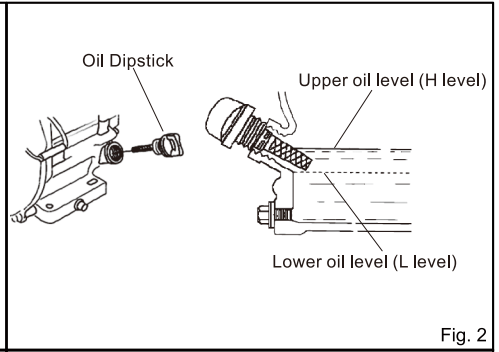

Fig. 2
- Insert the dipstick into the oil filler again and screw it in. (Fig. 2)